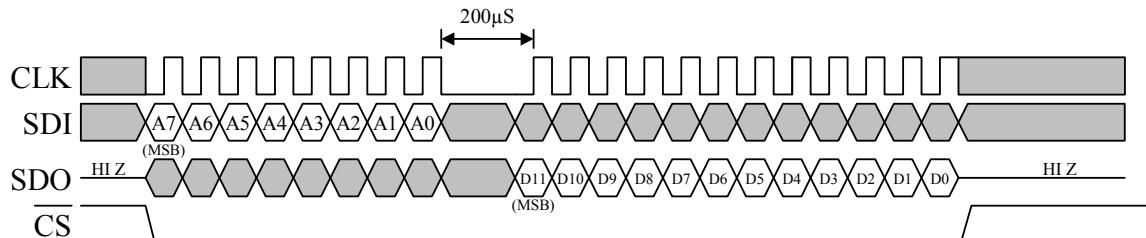

Figure 5 Timing Diagram for an A/D conversion and 12-Bit data read operation.
The KXP84 has an onboard 12-bit ADC that can sample, convert and read back sensor data at any time. Transmission of an 8-bit axis-conversion command (see Table 10) begins on the falling edge of nCS. The MSB of this command indicates if you are writing to (0) or reading from (1) the register. After the eight clock cycles used to send the command, the host must hold SCLK low for at least 200 μ s during the A/D conversion time. Note that all returned data is sent MSB first. Once the data is received, nCS must be returned high for at least 130nS before the next data request. Figure 5 on the following page shows the timing diagram for the accelerometer 12-bit ADC read operation.